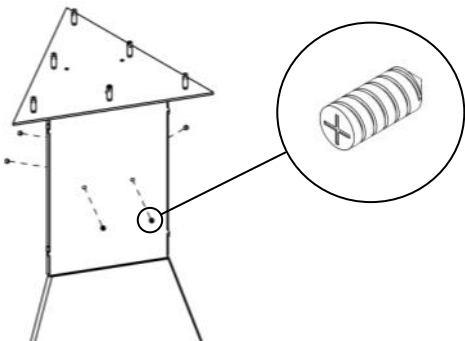

Figure 3— Tube tightening with bolts
After completing the assembly (J), place the fixing tube (I) and tighten with the supplied bolts, as shown in figure 3. Make sure that the assembly is well placed and tight before fixing it to the ceiling.